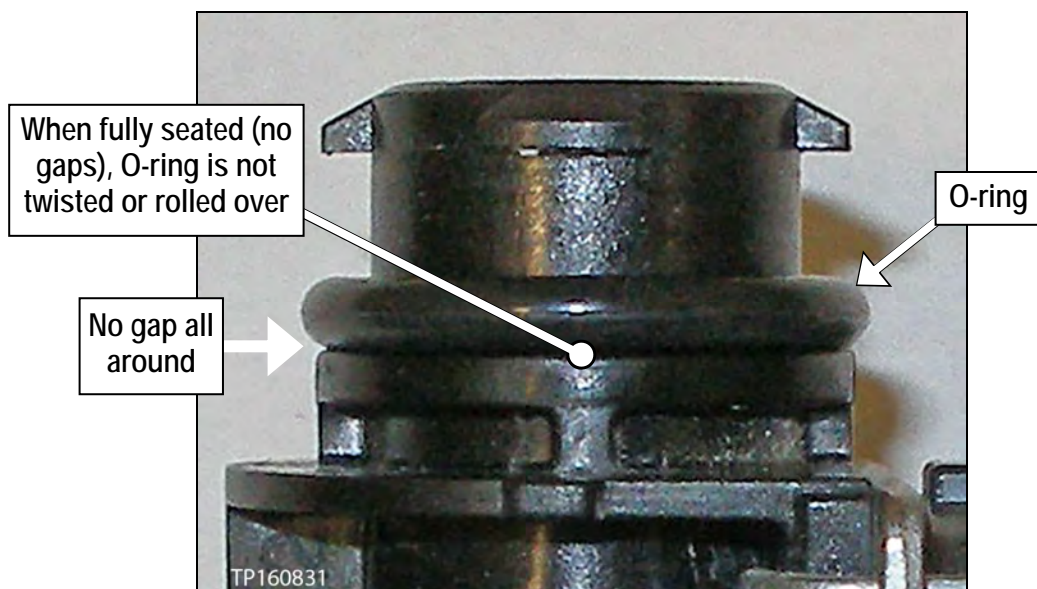

Figure 7
- Seat the O-ring all the way down as shown on page 4, Figure 7.